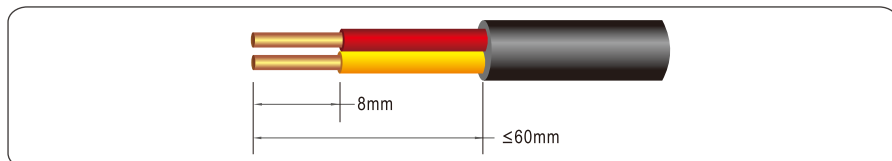

Figure 5.19 Stripping an RS485 communication cable (unit: mm)
Step 1 Remove an appropriate length of the insulation layer from the cable using a wire stripper, as shown in Figure 5.19.